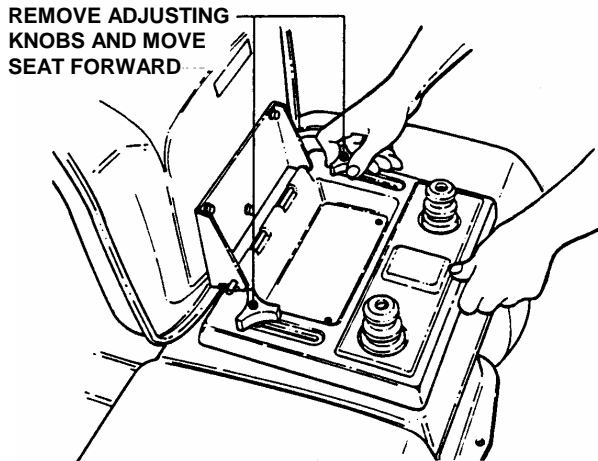

FIGURE 4.33
3. Remove seat assembly and move forward. Use care not to disconnect wires from seat switch. See Figure 4.33.